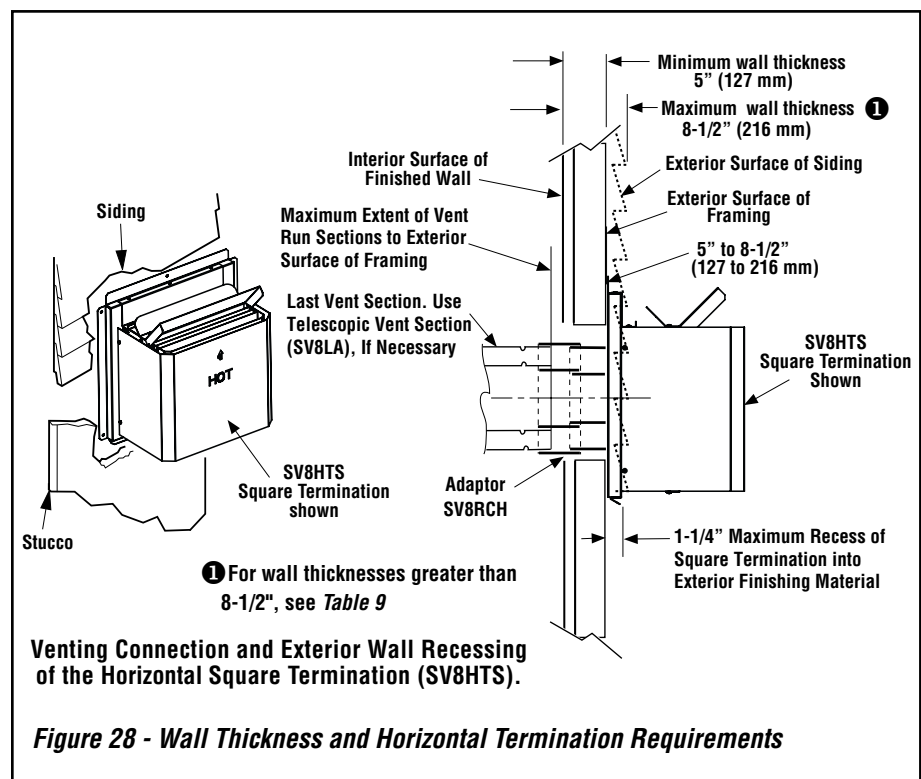

Figure 28 - Wall Thickness and Horizontal Termination Requirements
If the terminus of the last section is not within this distance, use the **telescopic vent section SV8LA**, as the last vent section. For wall thicknesses greater than that shown in **Figure 28**, refer to **Table 9 on Page 19**. This table lists the additional venting components needed (in addition to the termination and adaptor) for a particular range of wall thicknesses.
M. Install the square termination (SV8HTS) - For the last step, from outside the exterior wall, slide the collars of the termination onto the adaptor (the outer over the outer and the inner inside the inner) until the termination seats against the exterior wall surface to which it will be attached. Orient the housing of the termination with the arrow pointed upwards. Secure the termination to the exterior wall. **The horizontal termination must not be recessed into the exterior wall or siding by more than the 1-1/4" (32 mm) as shown in Figure 28.**
Venting Components Required for Various Exterior Wall Thicknesses, when using Square Termination Kit (SV8HTS - see Figure 28)